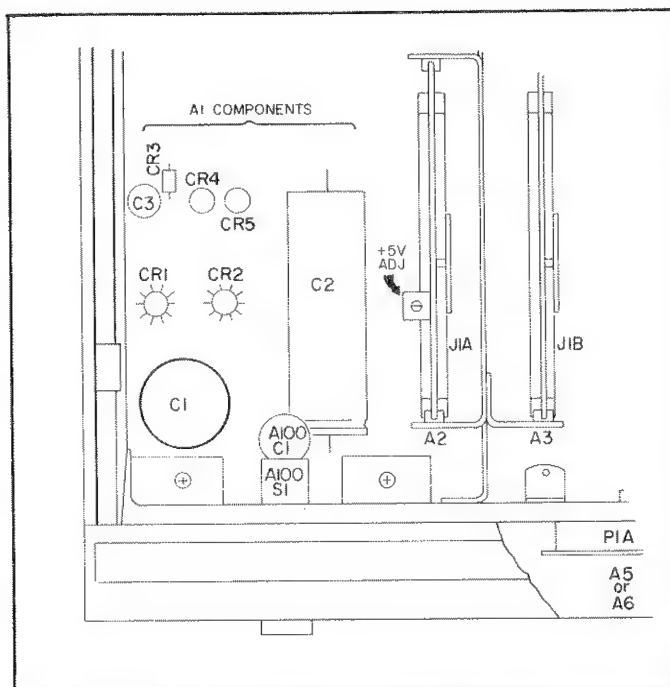

Figure 5-1. Five (5) Volt Adjustment.
c. Adjust A2R1 to give a reading on the voltmeter of  $+5\text{ V} \pm 3\%$ . This adjustment screw is shown in Figure 5-1.